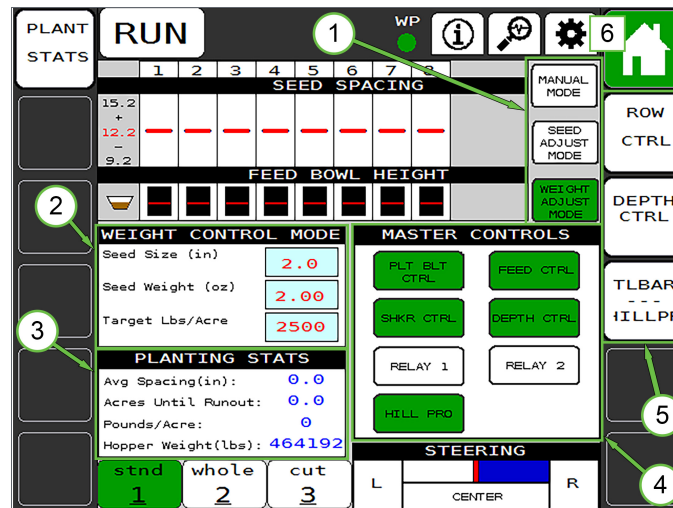
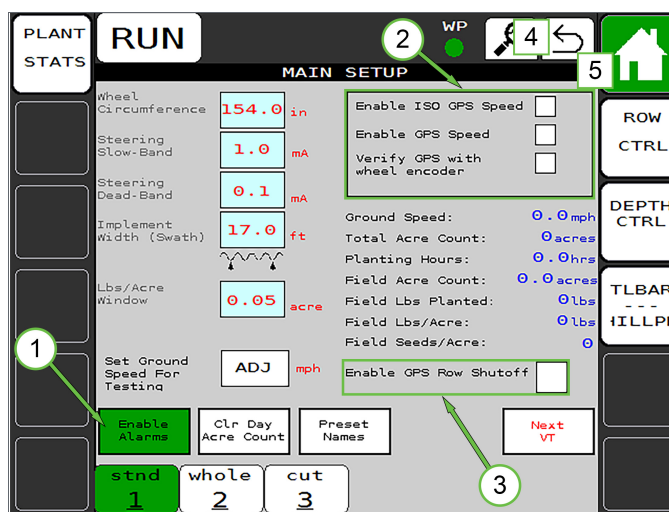

Figure 1
Figure 3
The CCI is powered on/off using the tractor ignition key (assuming the CCI is connected correctly and turned on). At the completion of the power-on boot sequence, the CCI displays the Home screen. The Home screen contains function controls, status information, and keys used to access additional screens. (see Figure 1)
Touch the (6) Settings key (see Figure 1) to access the Home settings screen. (see Figure 3)
To reset (1) field values touch the *Clr Day Acre Count* key near the bottom center of the Home settings screen. (see Figure 3)